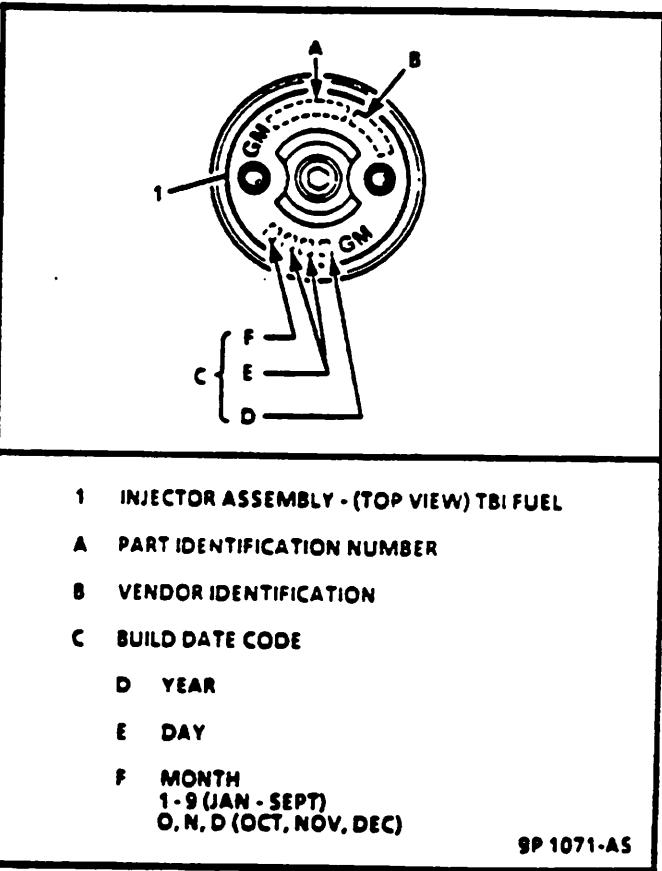

Figure 22 - Fuel Injector Part Number Location
- Be sure to replace the injector with one having an identical part number. Injectors from other models can also fit in the TBI, but are calibrated for different flow rates. (Refer to Figure 22 for part number location.)